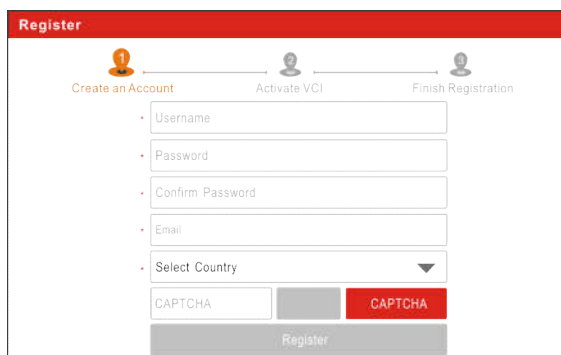

Fig. 4-3
- a) Create App Account: In Fig. 4-3, fill in the information in each field (Items with \* must be filled). After inputting, tap “Register”, a screen similar to the following will appear: